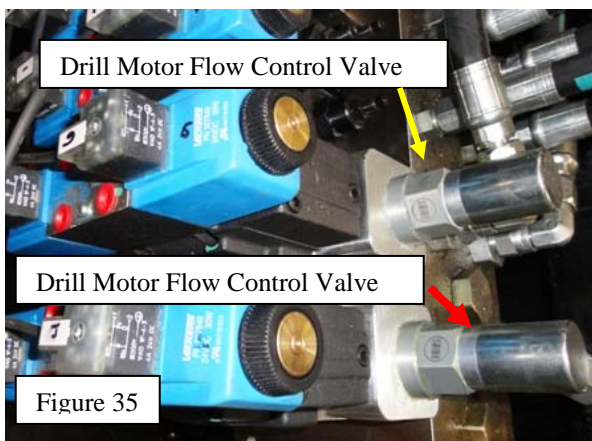

Figure 35
1. Drill Motor flow control valves are located on the machine's both work head Manifold (Figure 35).